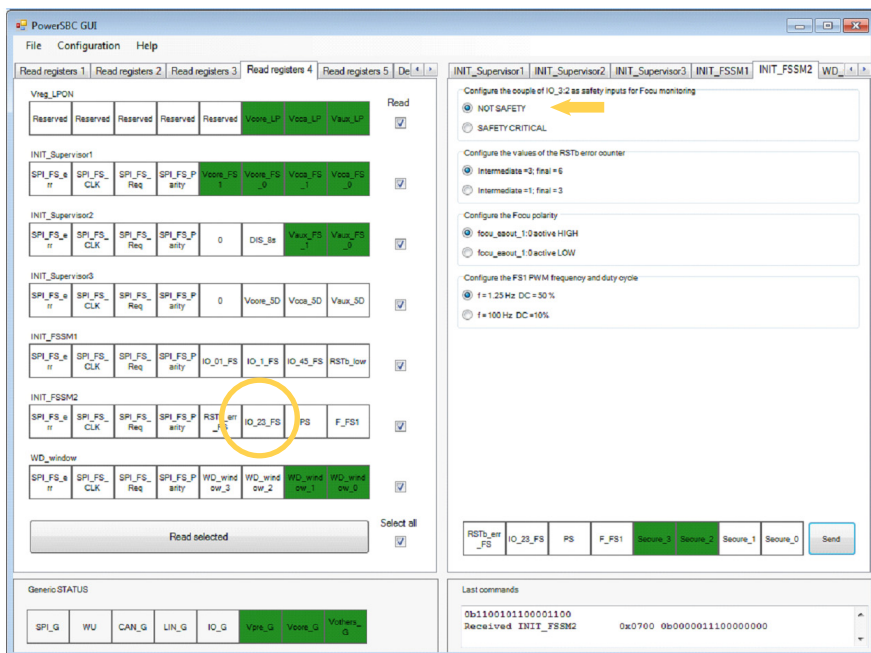

Figure 15. MC3390X_GUI Register
4. In the right side of the GUI, select NOT SAFETY and send the command as shown in Figure 15.